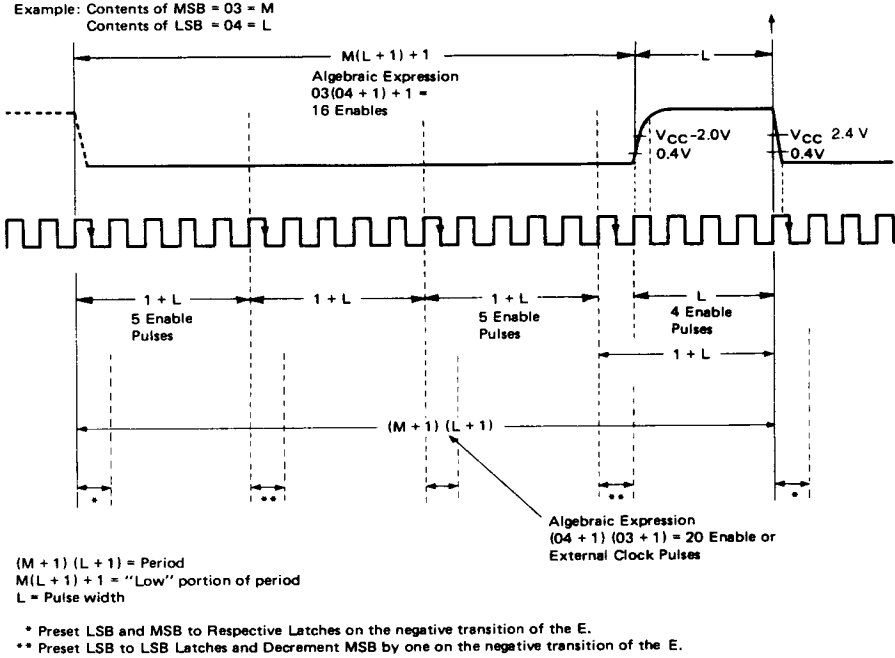

Figure 9 Timer Output Waveform Example (Continuous Dual 8-Bit Mode using Internal Enable)
In the dual 8-bit mode (CRX2 = "1") [Refer to the example in Fig. 9] the MSB decrements once for every full countdown of the LSB + 1. When the LSB = "0", the MSB is unchanged; on the next clock pulse the LSB is reset to the count in the LSB Latches and the MSB is decremented by 1 (one). The output, if enabled, remains "Low" during and after initialization and will remain "Low" until the counter MSB is all "0"s. The output will go "High" at the beginning of the next clock pulse. The output remains "High" until both the LSB and MSB of the counter are all "0"s. At the beginning of the next clock pulse the defined Time Out (TO) will occur and the output will go "Low". In the Dual 8-bit mode the period of the output of the example in Fig. 9 would span 20 clock pulses as opposed to the 1546 clock pulses using the Normal 16-bit mode.